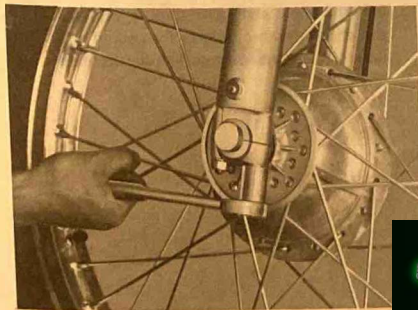

Fig. 24
9. Tighten the two axle holder nuts with specified torque. (Fig. 24)